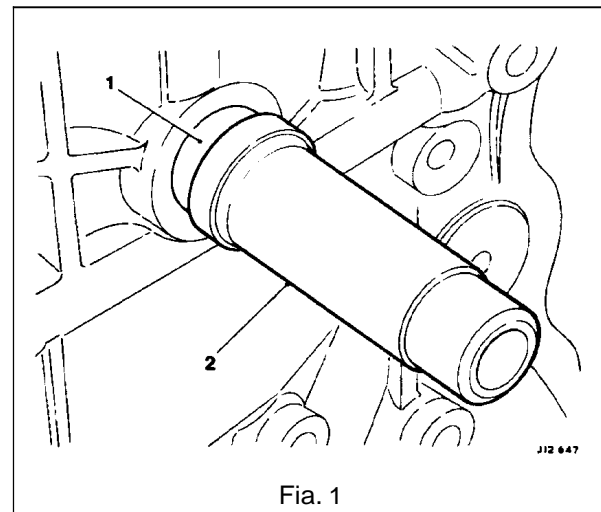

Fig. 1
- Fit a new link to the drive chain (2 Fig. 1).
- Fit and align a link plate to Service Tool JD 130 (1 Fig. 1). Ensure that the link and tool clamp holes are aligned. Fit the tool / link plate assembly to the drive chain.
- Fit the 'E' gate (3 Fig. 1) to the tool and chain link. Ensure that the chain is central to the tool. Tighten the tool center bolt, fully seating the plate on to the link.